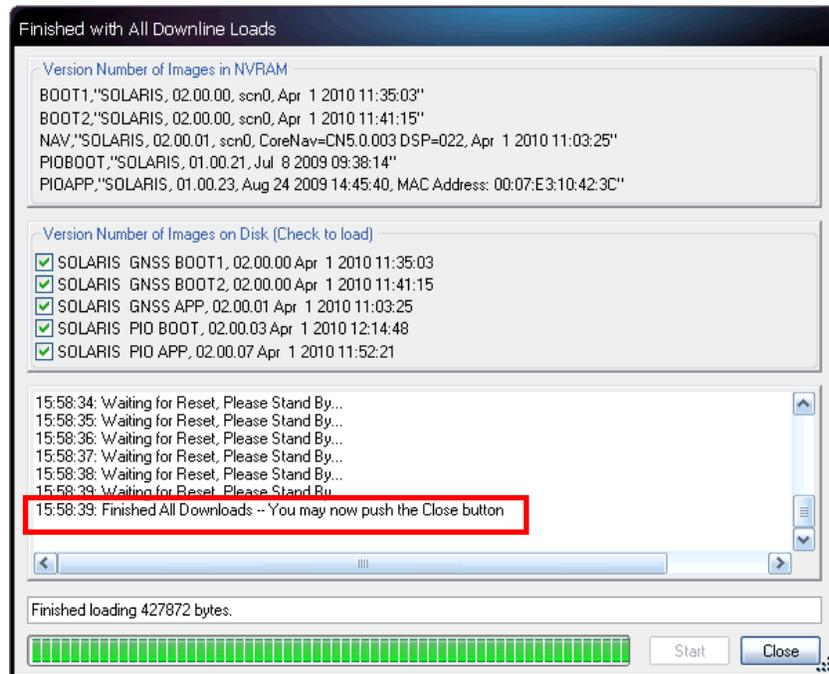

Figure 68: Finished with All Downline Loads
8. Once the firmware files are uploaded, the *Finished with All Downline Loads* dialog box is displayed (see Figure 68).